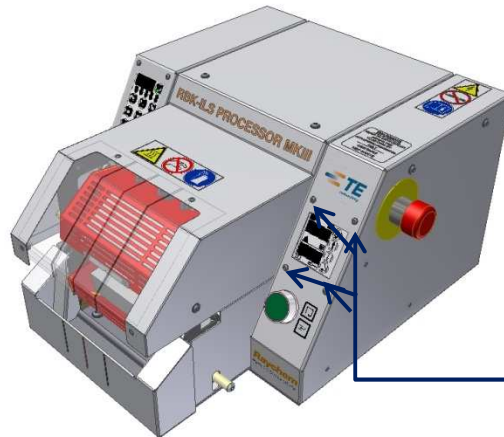

Fig. 4-22: Process Time Display Panel Removal
4. **Remove the four screws securing the PTDP to the left hand cover (Figure 4.22.).**